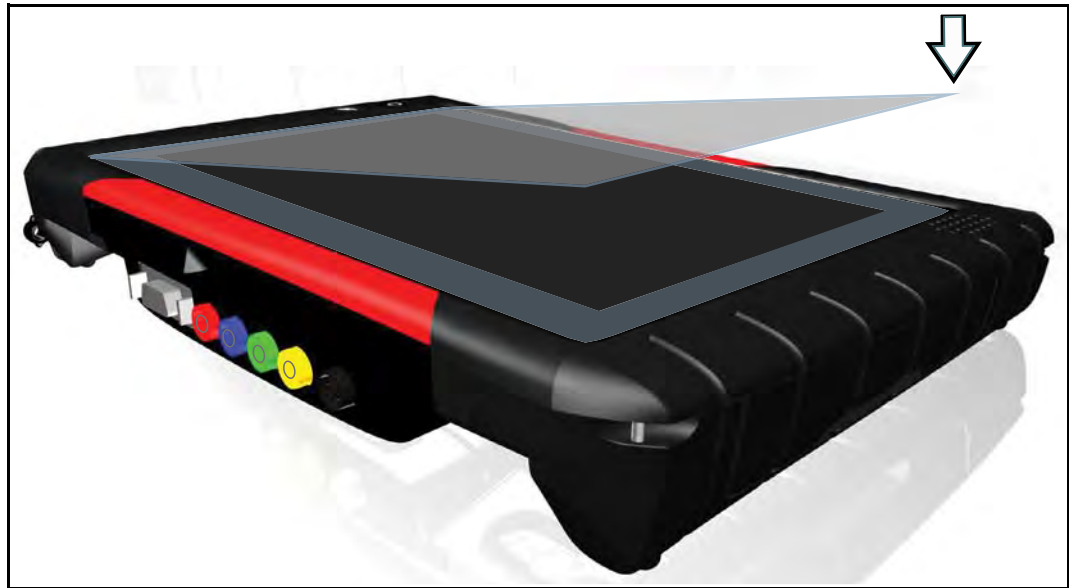

Figure 17-6
- Carefully align the edge of the protector with the edge of the screen, and slowly allow the screen protector to lie flat on the screen (Figure 17-6).